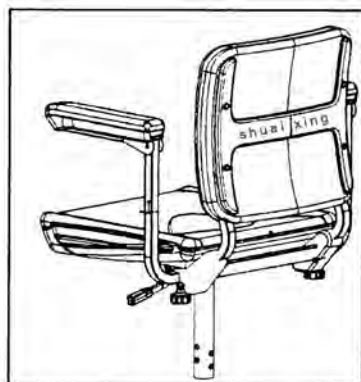

Figure 16. Seat
1. Loosen the armrest adjustment knobs. See figure 16.